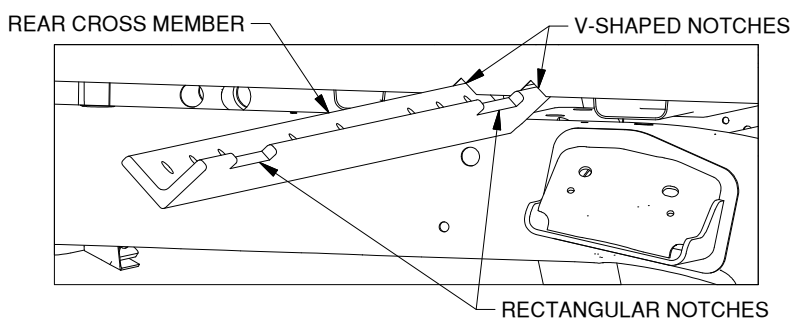

Figure C1: Looking into passenger side wheel well.
1. **Position rear cross member.** Locate the rear cross member and the area where the V-shaped notches were cut. Orient the rear cross member so the leg with the rectangular notches is toward the front of the truck. Slide the rear cross member through the V-shaped notches and between the bed and the frame until it spans the driver and passenger frame rails, as shown in Figure C1. Rotate the rear cross member so the leg with the rectangular notches is vertical. The leg with the holes should be flat against the top of the frame toward the rear of the truck.